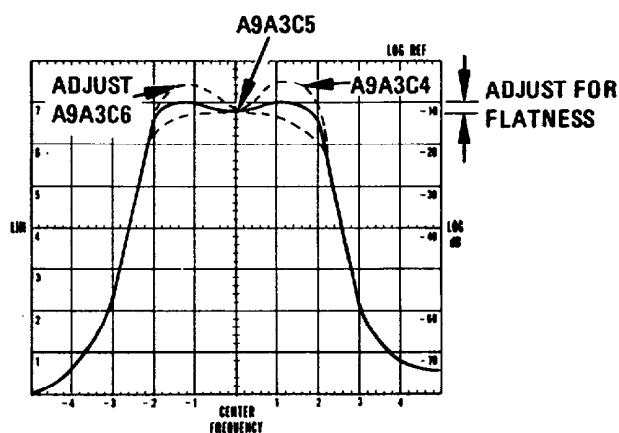

Figure 5-5. 200 MHz Bandpass Shape Adjustment: CRT Display
- 7. Measure total deviation of the bandpass flatness; flatness should be within ± 0.4 divisions (vertical) over ± 1 divisions (horizontal) referenced from CENTER FREQUENCY. Compare the display with Figure 5-5.
- 12. Adjust the FILTER adjustments, A9A3C4,5,6 for a bandpass shape as shown in Figure 5-5 while maintaining amplitude at 7 divisions using GAIN adjust A9A1C8. If sufficient amplitude cannot be obtained with A9A1C8, change the value of factory selected resistor, A9A1R7 until proper level is achieved.